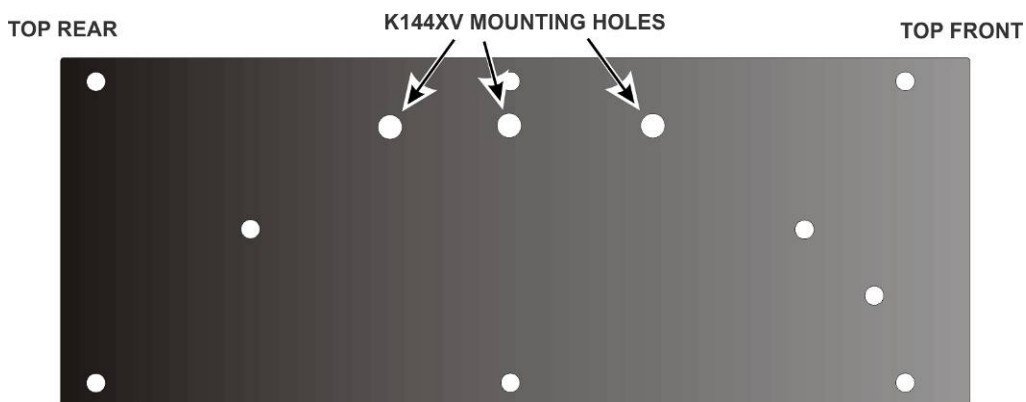

Figure 62. Left Side Panel.
- Locate the left side panel. Both side panels are approximately 4" (10 cm) by 9-7/8" (25 cm) in size but with different hole patterns. The left side panel is shown in Figure 62